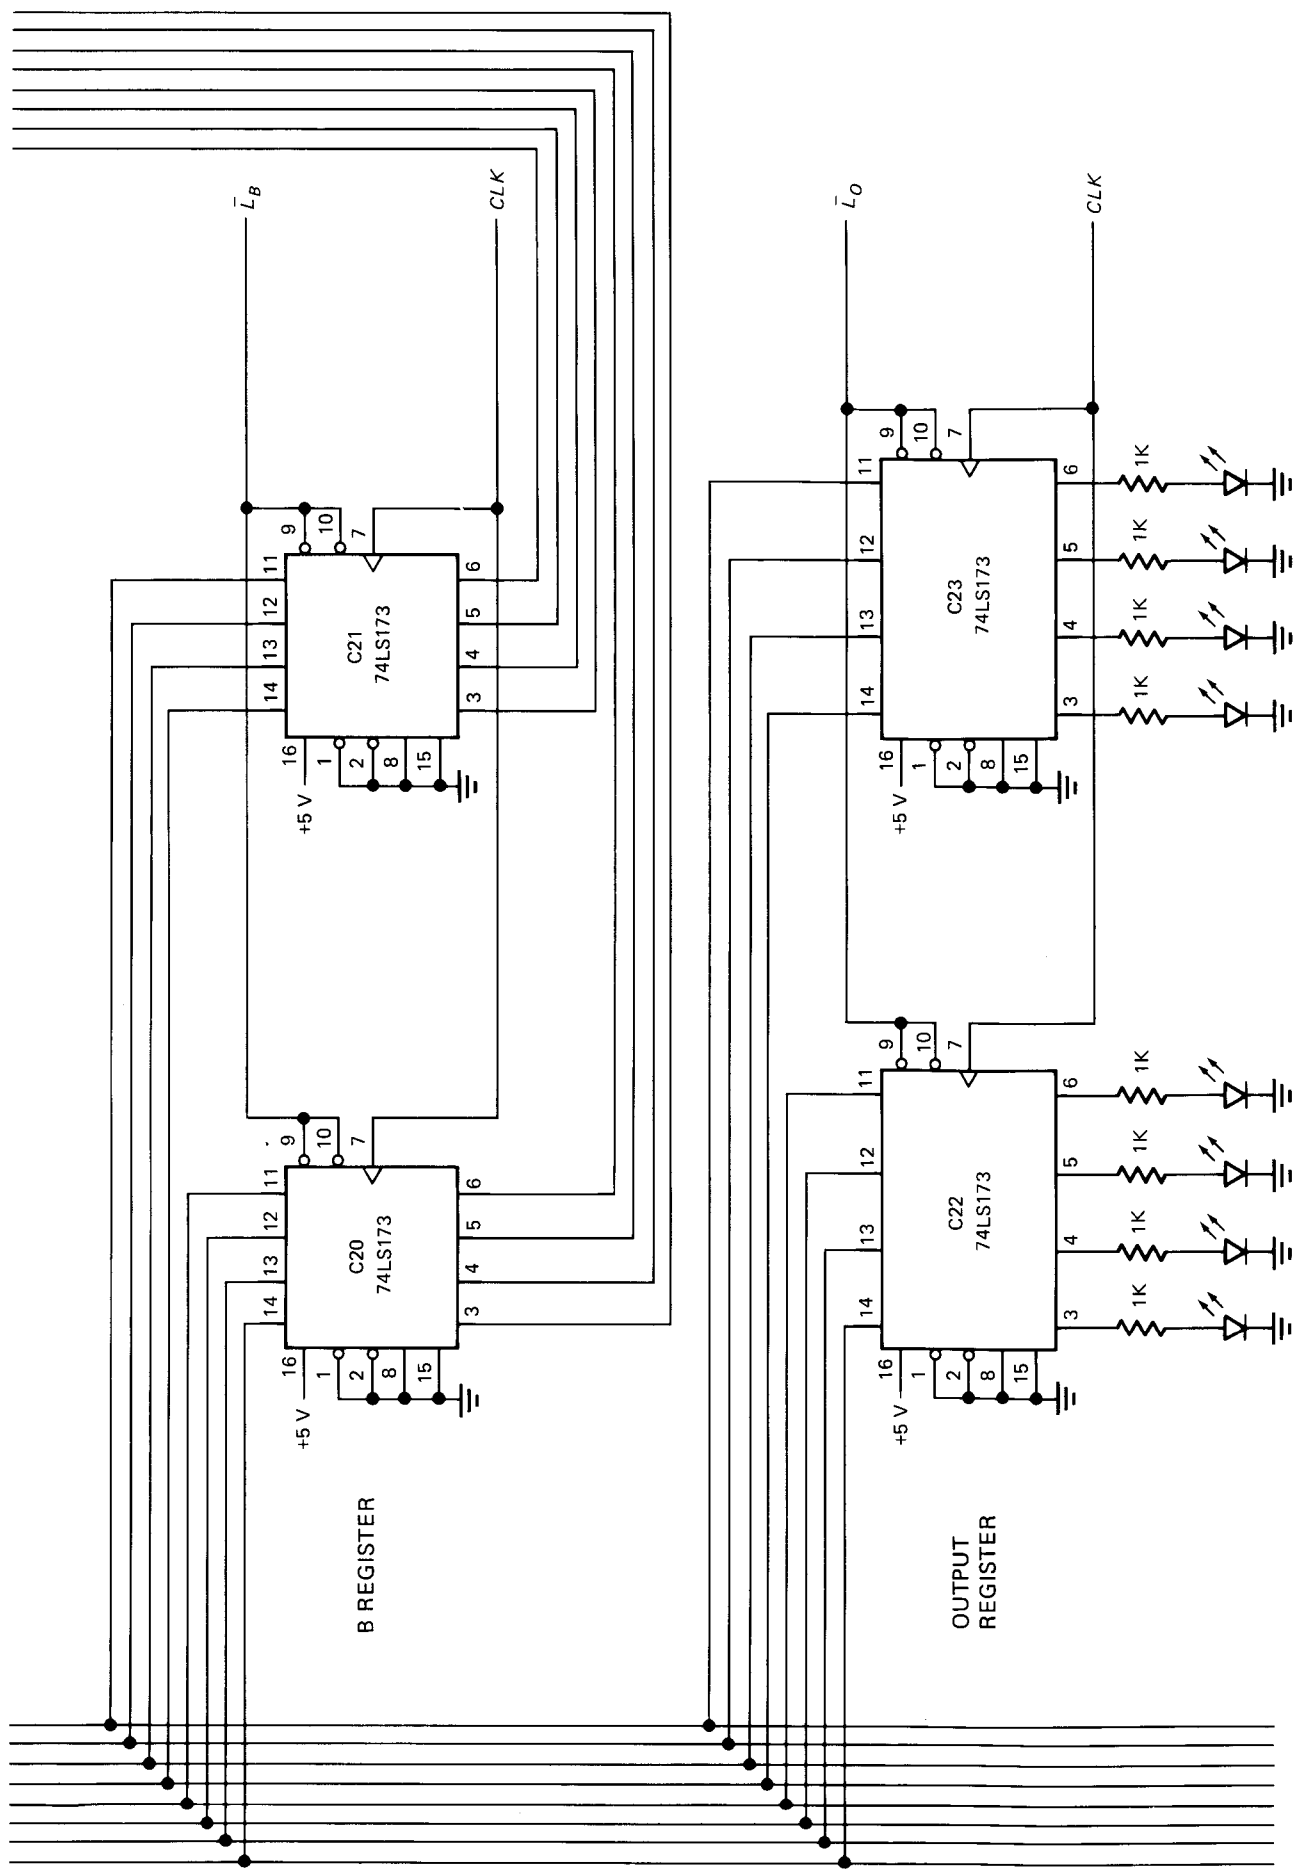

Fig. 10-21
- 10-10.** Refer to Fig. 10-21: